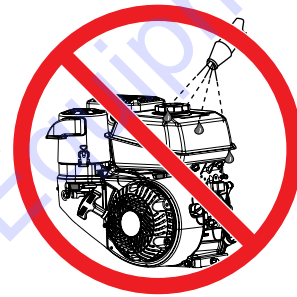

Figure 36. No Spraying of Water
8. **NEVER!** pour or spray water over the engine (Figure 36).